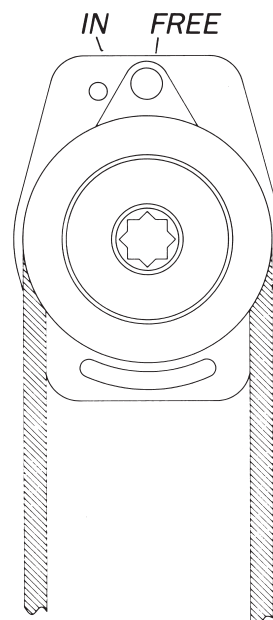

Fig. 7:2
- When reefing from the cockpit the Reefing Winch must be set to "free". (See Fig. 7:2).